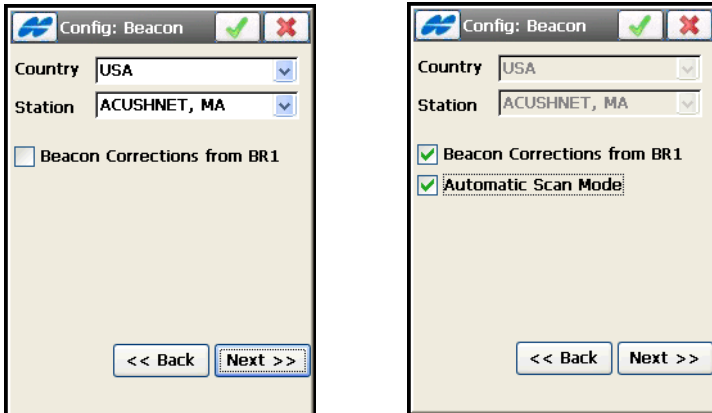

Figure 3-41. Config: Beacon
The **Config: Beacon** screen (Figure 3-41 on page 3-41) contains settings for a radio-beacon source of differential GPS corrections.
- **Beacon Corrections from BR-1** – check mark this box to enable the BR-1 receiver as a source of differential corrections for the rover. If selected, makes the *Automatic Scan Mode* available (Figure 3-41).